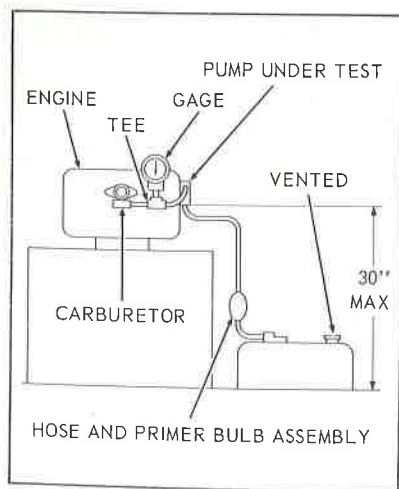

Figure 3-21A. Fuel Pump Pressure Test
1. Connect a fuel pressure gauge between the carburetor and fuel pump as illustrated in Figure 3-21A.